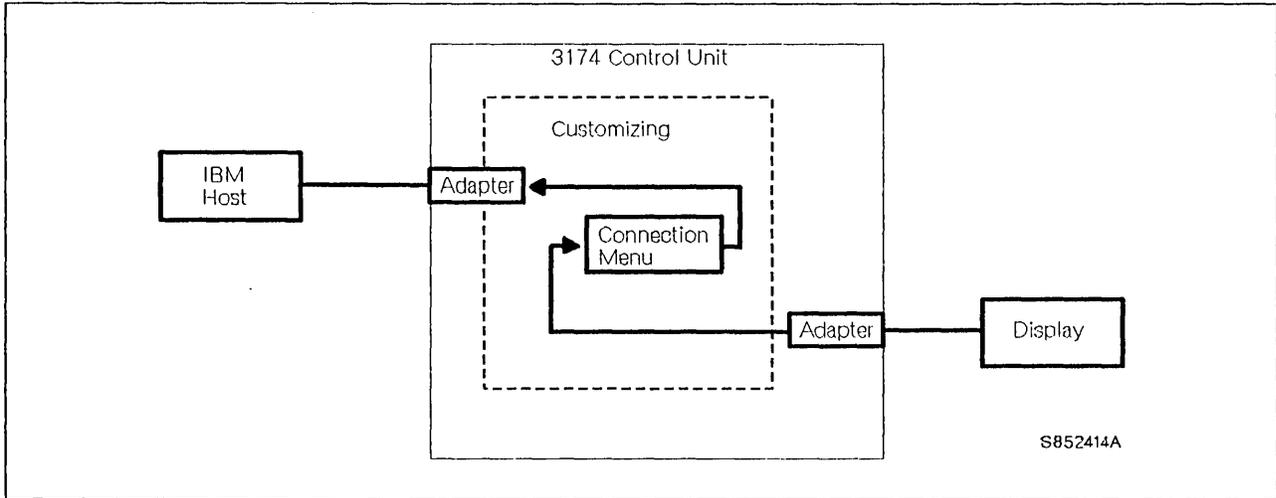

Figure 13. Connection Menu Option 1
1. The terminal user may be presented with the Connection Menu but is only allowed to select the default host assigned. See Figure 13.